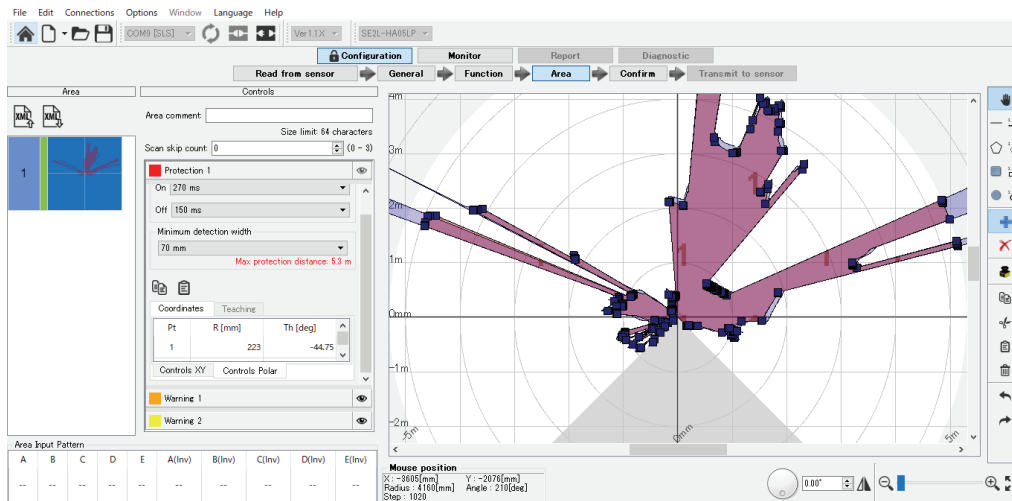

Figure 7-48 Area configured by teaching
- When the stop button is clicked, an area is generated by the smallest data recorded. Configured area will resemble the SE2L's background. (Figure 7-48). When configuring the protection zone, if the background is not within the maximum detection distance it is set to maximum detection distance of SE2L. In case of warning area, if there is no background within 30 m from SE2L it will be set to 30 m.